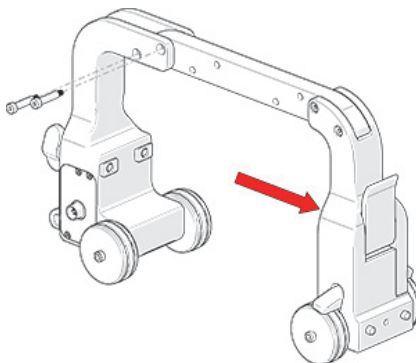

Figure 3-4 Align screw holes
2. With the two shoulder screws removed, position the two halves of the arch farther apart, align the screw holes, and insert the shoulder screws (see Figure 3-4 on page 42).